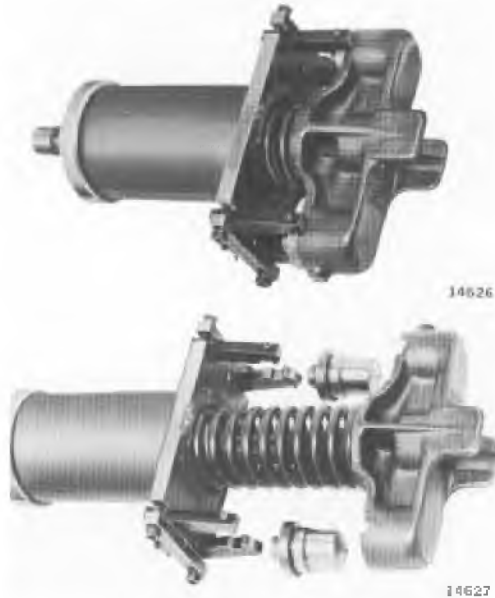

Fig. 2-24 - Removing Hydraulic Lash Adjuster
1. Remove lash adjuster assembly from bridge, using adjuster puller, Fig. 2-24.